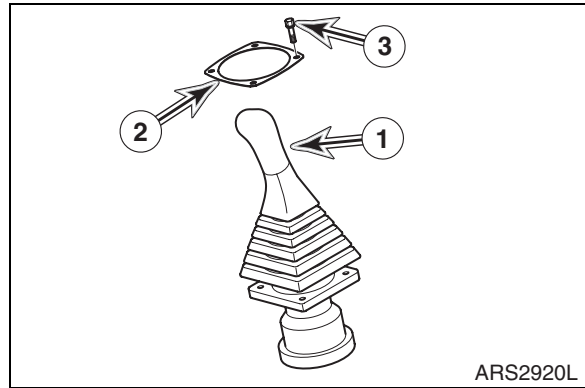

Figure 39
1. Connect hoses as tagged during removal to remote control valve R.H. (1, Figure 39).
2. Position remote control valve R.H. (1, Figure 39) on control stand and install four bolts and washers (3) and cover (2).